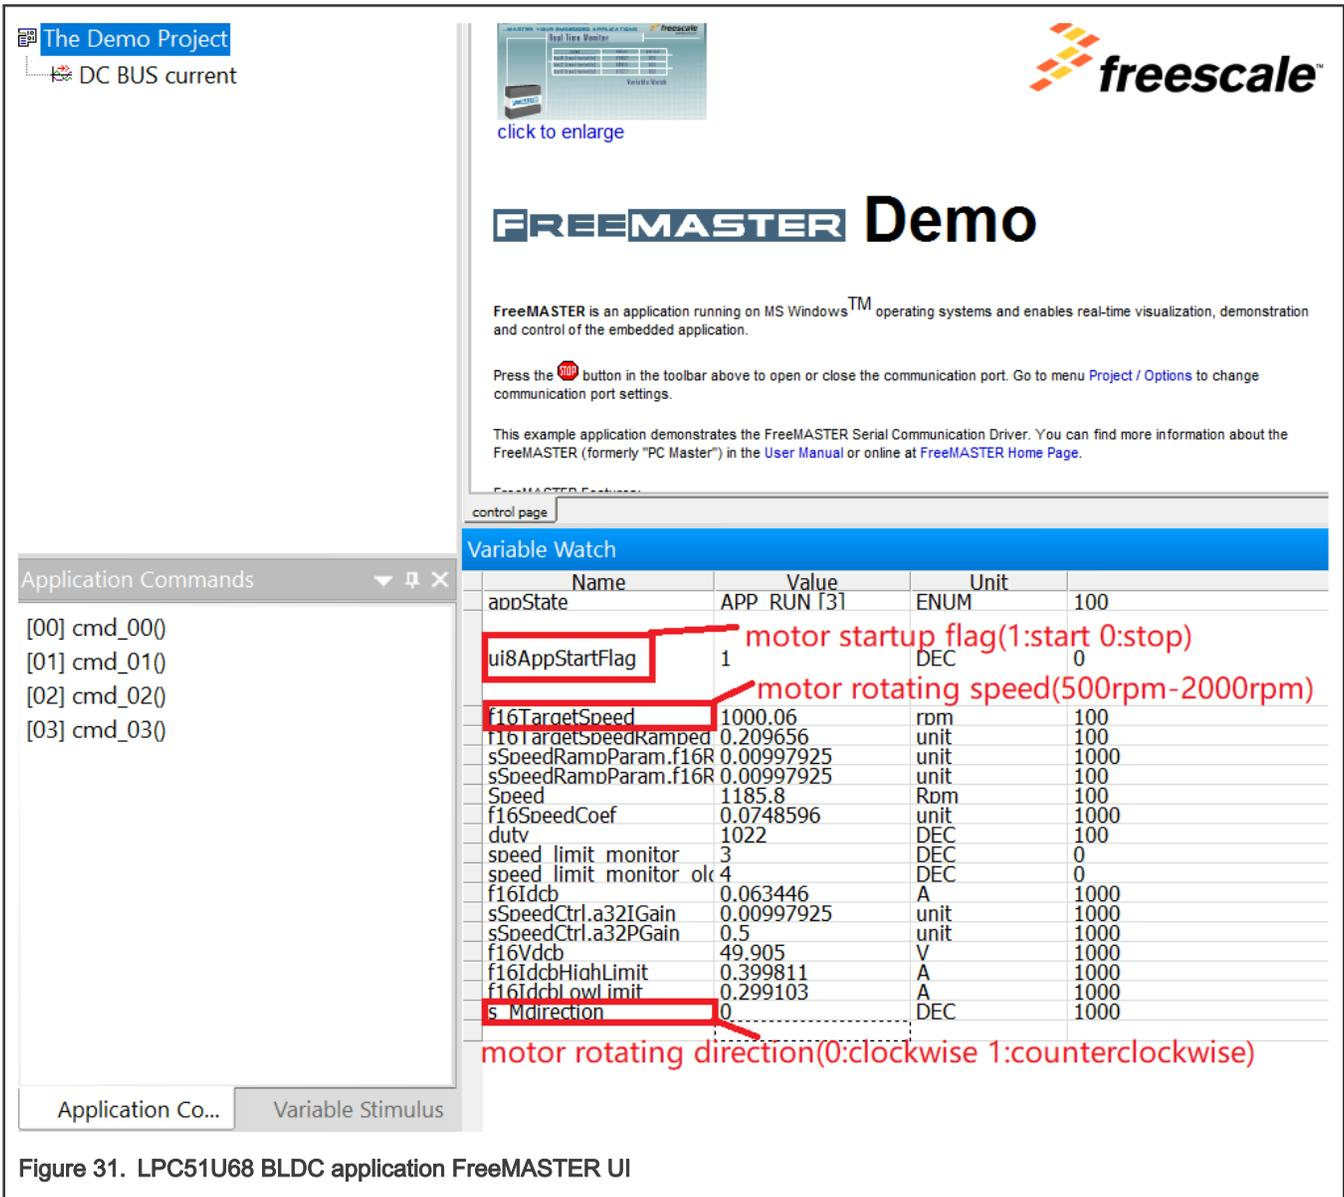

Figure 31. LPC51U68 BLDC application FreeMASTER UI
FreeMASTER is used as a real-time monitoring tool for LPC51U68 BLDC application. Figure 31 shows the user interface for this application and Table 7 lists common-used variables. The project file is named as *SCT_BLDC_LPC51U68.pmpx* which is located in *boards\lpcxpresso51u68\driver_examples\sctimer\common*.
10. LPC51U68 BLDC application user interface appears as shown in Figure 31.